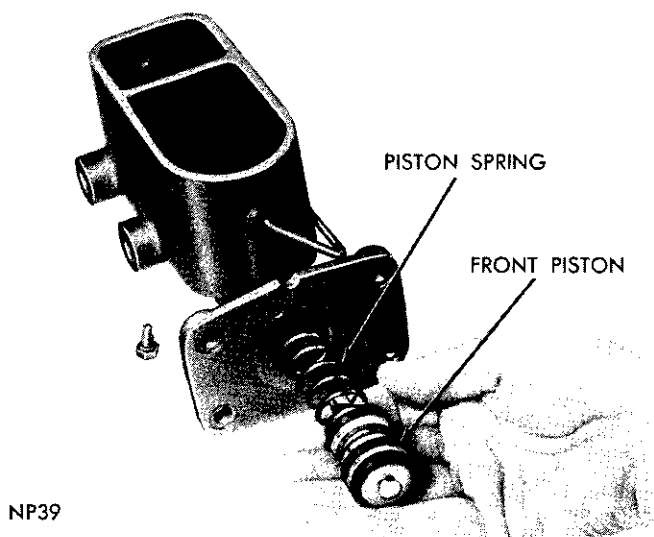

Fig. 5—Installing Front Piston and Spring
(4) Position small end of pressure spring into retainer, then slide assembly into bore of cylinder (Fig. 5). **Be sure cups enter bore evenly in order not to damage sealing quality of cups. (Keep well lubricated with brake fluid.)**